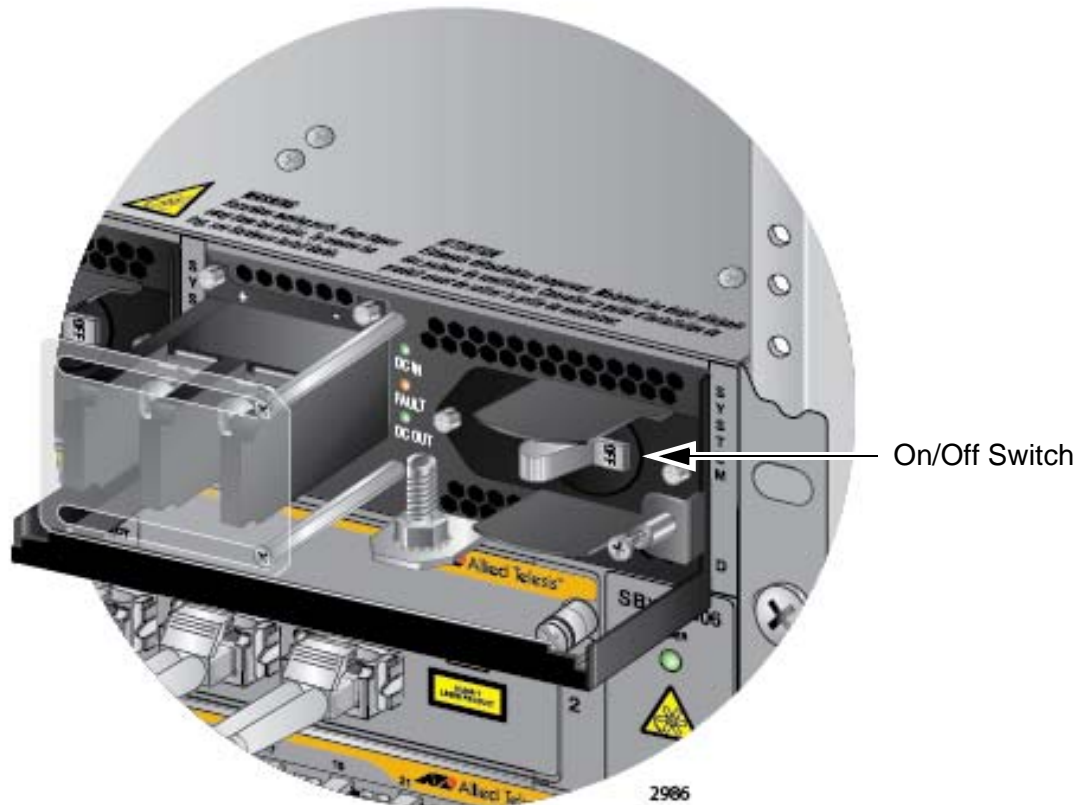

Figure 125. On/Off Switch on the AT-SBxPWRSYS1 DC Power Supply
3. Verify that the On/Off switch on the AT-SBxPWRSYS1 DC Power Supply is in the Off position. Refer to Figure 125 on page 192.
13. Turn the On/Off switch on the power supply to the On position. See Figure 125 on page 192.
2. Verify that the On/Off switch on the AT-SBxPWRSYS1 DC Power Supply is in the Off position. Refer to Figure 125 on page 192.
12. Turn the On/Off switch on the power supply to the On position. See Figure 125 on page 192.
11. Turn the On/Off switch on the power supply to the On position. See Figure 125 on page 192.